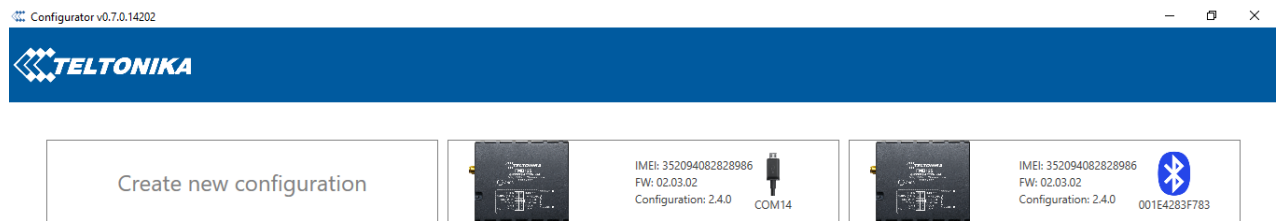

Figure 9 FMB1YX configurator window when selecting the connection method
- 'Connect to device' (Figure 9) – connects device.